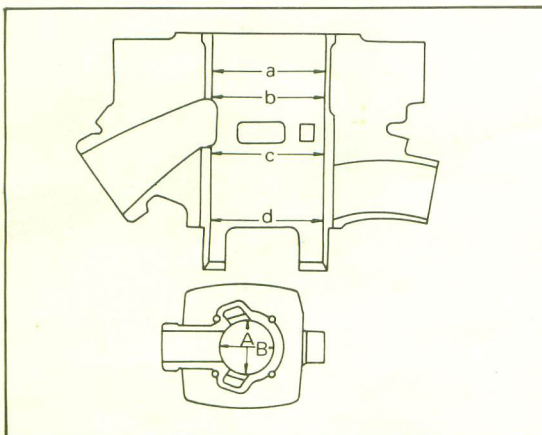

Fig. 3-3-5
- 1) In two-stroke engines, the maximum wear usually occurs in the upper area of the cylinder wall due to the side thrust of the piston, with less wear in the adjacent areas of transfer and exhaust ports. Measure each cylinder's bore diameter at four different depths (a, b, c, d) with a micrometer or a cylinder gauge placed in the direction of A and B. See Fig. 3-3-5 if the difference between the maximum and minimum diameters measured exceeds 0.05 mm (0.0019 in.), rebore and hone the cylinder. Warpage, however, can be extreme at high heat areas such as the exhaust port. Therefore, care must be taken during measuring.
- 3) To make sure that the cylinder boring has been correctly done, measurements should be made as illustrated in Fig. 3-3-5.